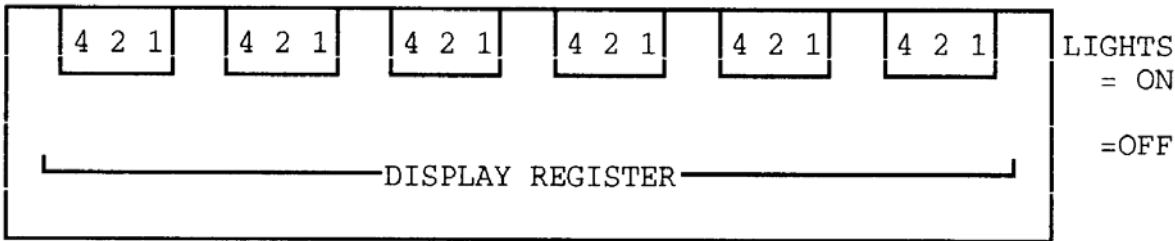

Figure Q-4. Binary Indication
(5) Note the relationship between decimal, binary, and octal. Keep in mind that powers of two are used in binary and powers of eight in octal. Studying the count from 0 to 7 reveals that any three-bit binary number can be written in octal using just one digit. Also, maximum count for three places in binary (111_2) is equal to the maximum count for one place in octal.
(6) Binary to octal conversion is commonplace. A typical binary indication using a light panel (display register) is shown in Figure Q-4.
(9) The octal equivalent of the 18-bit binary number is 763251₈.
(10) Most computers have a self-test capability. The final light display (whether in octal or binary) will indicate a good computer or one with a malfunction. Suppose that you have just finished running a computer self-test procedure, and you obtained the light display shown in Figure Q-4.
(11) The proper pass indication for this test is given in octal as 464157₈. Any other indication means that the test has failed. Did the self test pass? Converting the binary readout to octal we get 263157₈, which means the self-test has failed. Being able to recognize the octal equivalent of any group of three binary bits is essential for rapid, accurate conversions.
(12) Conversion of an octal number to a decimal number is similar to converting a binary number to a decimal number. Each octal digit is multiplied by its place value, and then the decimal equivalents are added. The conversion of octal number 167 is illustrated in the example.